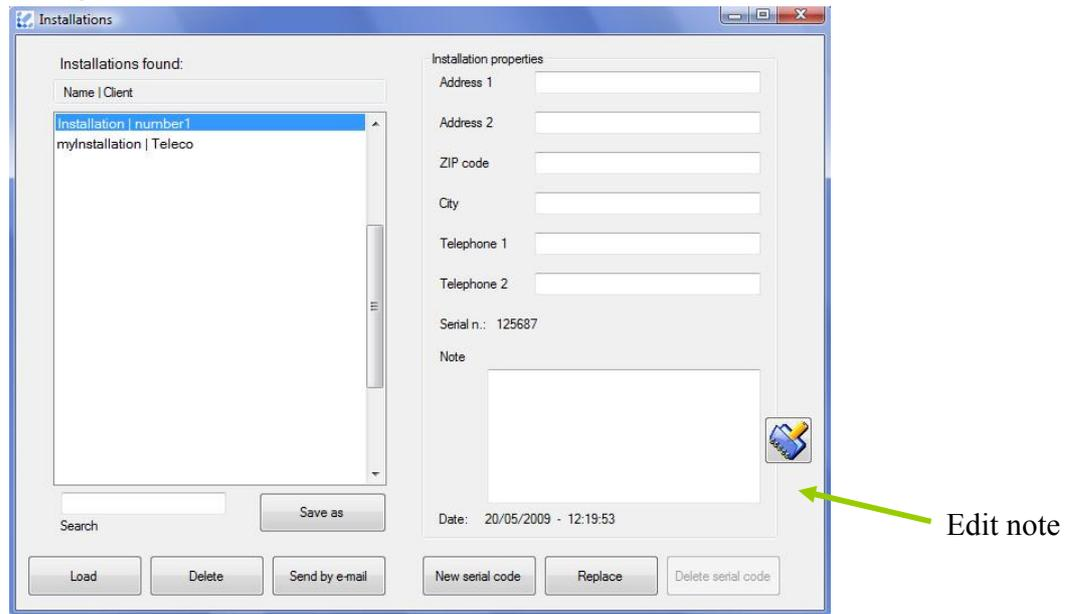

Fig.2 Installations window
From the main window use the OPEN command to access the INSTALLATIONS window (fig.2), which appears with a box containing a list of the installations saved in the computer (left part of the figure) and information related to the selected installation, ranging from customer data to the date of installation of the receivers. Notes regarding an installed receiver are displayed (since reference is made to just one specific receiver through the serial number, it is handy to accompany this information with notes for example regarding the position of the actual receiver).
- REPLACE: change the serial number of a selected device with another (in figure 2 it is No. 125687); this command is useful, for example, when changing the device for a new one.